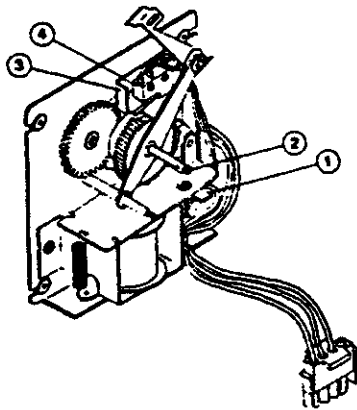

Figure 7: Clock Movement Assembly
2. Raise cam follower arm (Fig. 7, #3).
3. Depress and hold actuating blade of lockout switch (Fig. 7, #4) to avoid damage to switch.
1. Depress and hold ratchet tab (Fig. 7, #1).
2. Turn setting knob (Fig. 7, #2) counterclockwise until hands reach one minute prior to desired setting.